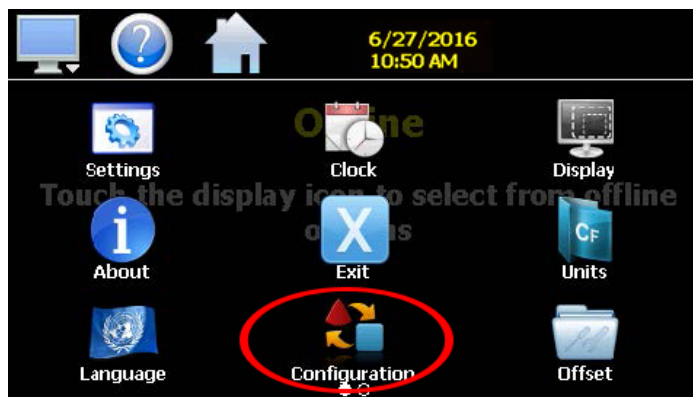

Fig. 116: Configuration Icon
- Select HOME - MONITOR - (swipe screen) SETTINGS - MONITOR - OFFLINE - Select YES - MONITOR - CONFIGURATION icons (Fig. 116).